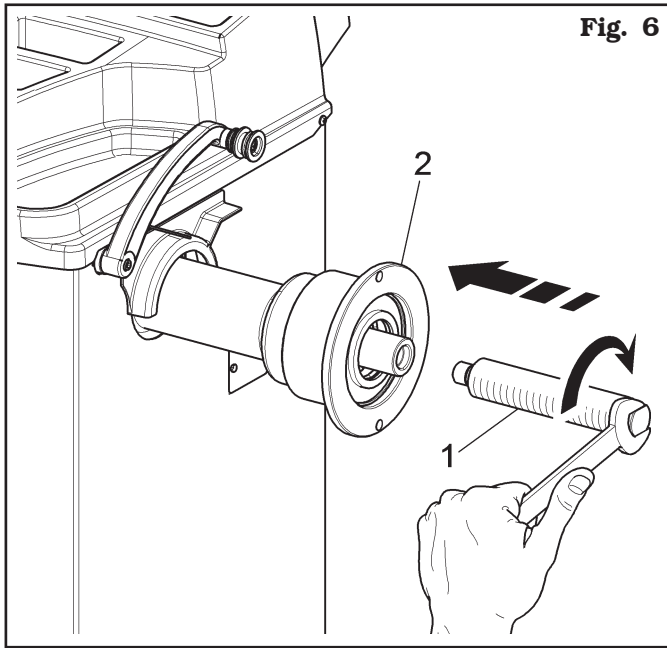

Fig. 6
Screw the shaft with an Allen wrench (Fig. 6 ref. 1) on the flange (Fig. 6 ref. 2).